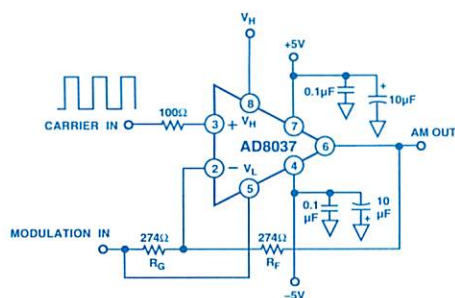

Figure 12. Amplitude modulator.
Amplitude Modulator: In addition to its use as an amplitude demodulator (AM detector), the AD8037 can also be configured as an amplitude modulator as shown in Figure 12. In this figure, a high-frequency carrier is modulated by a lower frequency signal.
- Chip capacitors (0.01 to 0.1 μ F) should be used to bypass supply and fixed-input clamp pins (see Figure 12). One end should be connected to the ground plane, the other within 1/8" of each power and clamp pin. An additional 0.47 to 10- μ F tantalum electrolytic capacitor should be connected in parallel, though not necessarily so close, to handle large load-current transients. Some brands of electrolytic capacitors will require a small series damping resistor $\approx 4.7 \Omega$ for optimum results.